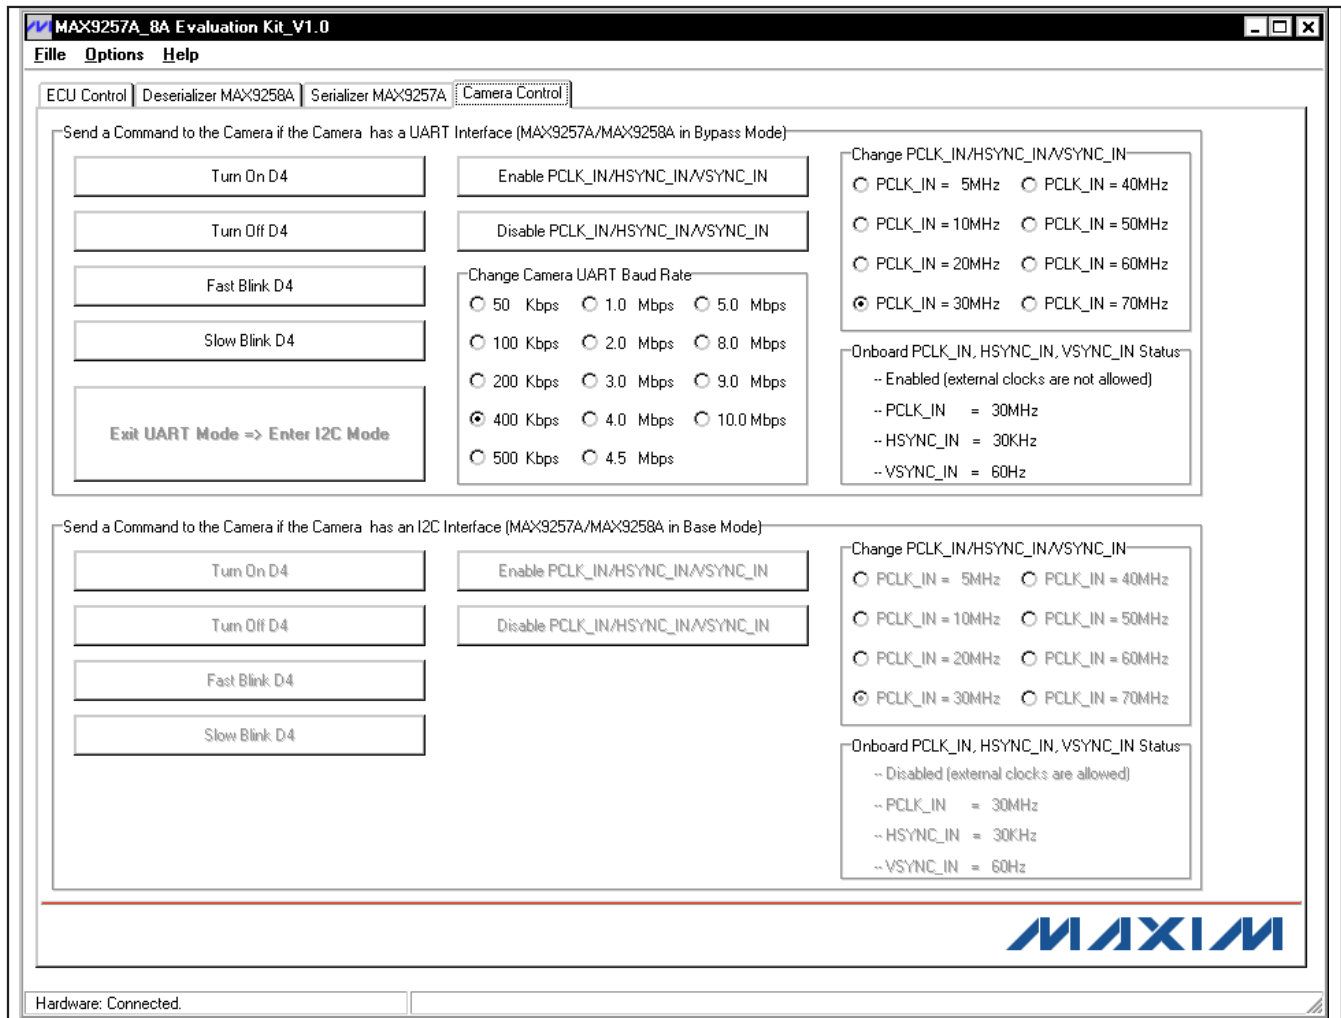

Figure 6. MAX9257A/MAX9258A Evaluation Kit Software—Camera Control Tab
- 23) Click on the **Camera Control** tab to move to the **Camera Control** tab sheet (Figure 6).
On the **Camera Control** tab sheet (Figure 6), the ECU can communicate to the emulated camera during a control-channel session.
- 10) Navigate to the **Camera Control** tab sheet (Figure 6). Press the **Turn On D4**, **Turn Off D4**, **Fast Blink D4**, and **Slow Blink D4** buttons, respectively, to verify that the ECU is communicating to the camera properly.
- 11) Navigate to the **Camera Control** tab sheet (Figure 6). On this tab sheet, all ECU commands to the camera follow this order in one control-channel session:
- Navigate to the **Camera Control** tab sheet (Figure 6) and press the **Exit UART Mode** → **Enter I²C Mode** button (this button is available only when CTO is not equal to 0).